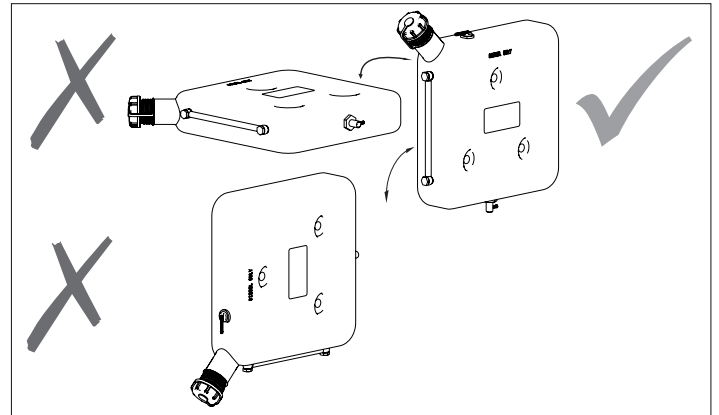

Fig. 2 Permissible installation position
■ The permissible installation position is vertical (see Fig. 2).